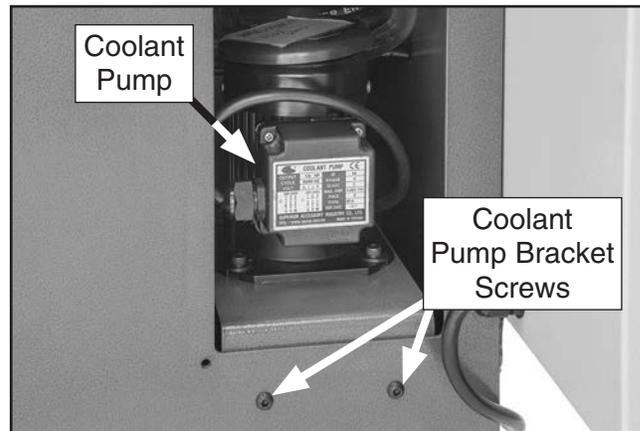

Figure 75. Coolant pump access panel removed.
4. Remove coolant pump access panel on left side of machine, as shown in **Figure 75**.